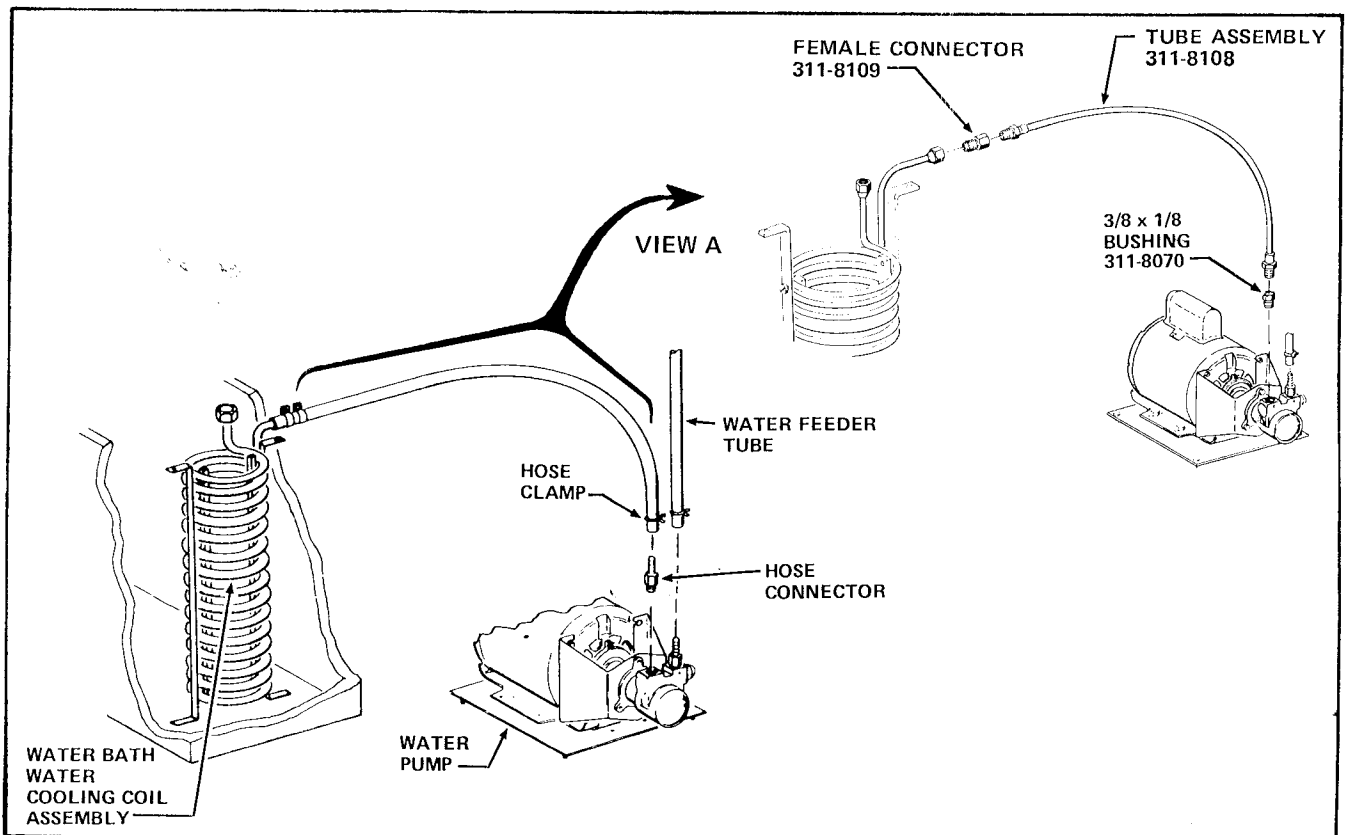

FIGURE 2
10. Unclamp and disconnect from the Water Pump the hose that leads to the Water Cooling Coil of the Water Bath. See Figure 2.
11. Remove the left Hose Connector from the Water Pump. See Figure 2.